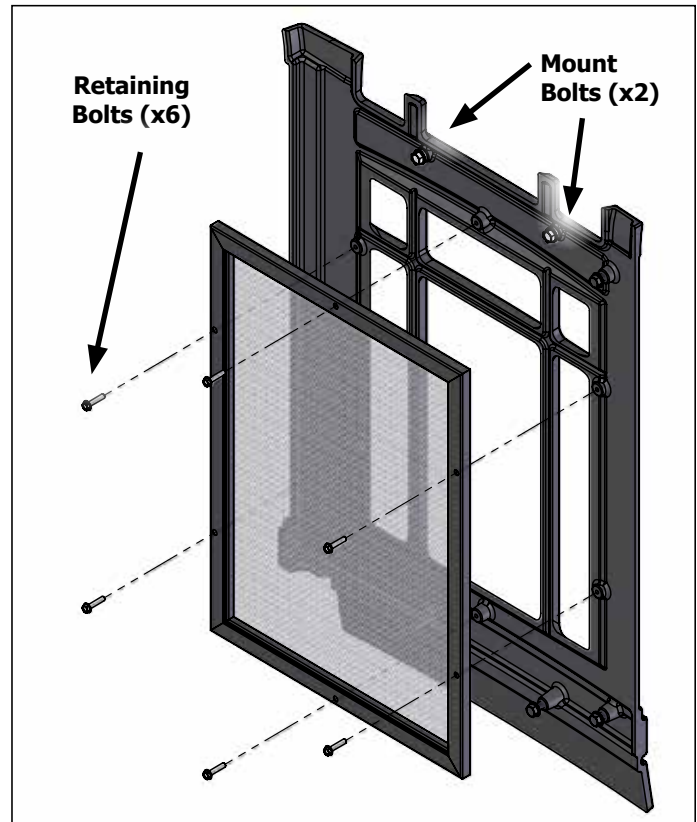

Figure 62. Safety Screen Removal - Side
Step 6: Remove the six (6) retaining bolts (Figure 62) using a 1/4" socket and remove the damaged screen while noting the orientation. Install the new screen (50-3716) by simply re-installing the retaining bolts.
Step 7: Re-install the cast side and tighten the two (2) top mount bolts. Re-install the cast door and top to finish.